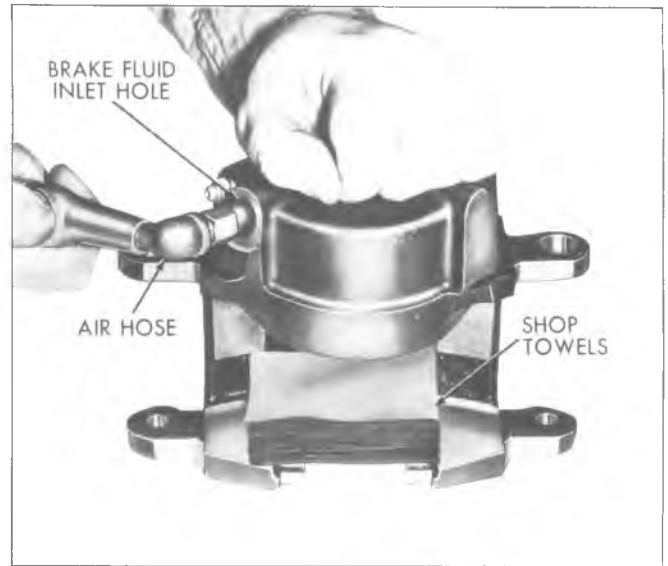

Fig. 35—Removing Piston From Caliper
4. Using clean shop towels, pad the interior of the caliper and remove the piston by directing compressed air into the caliper inlet hole (fig. 35).